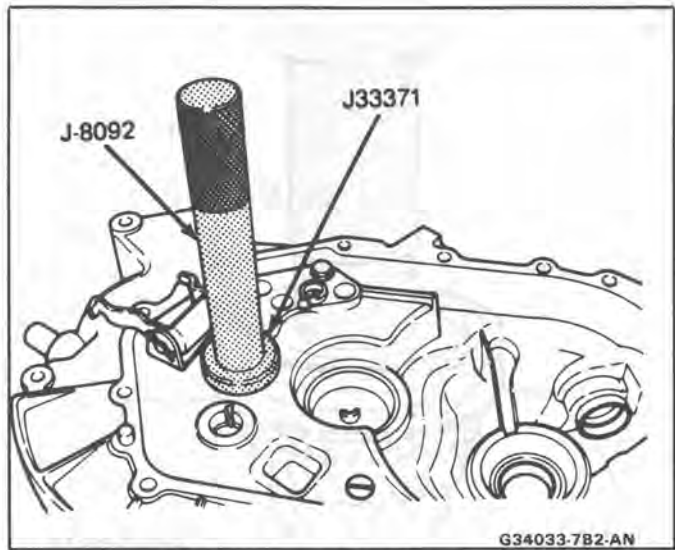
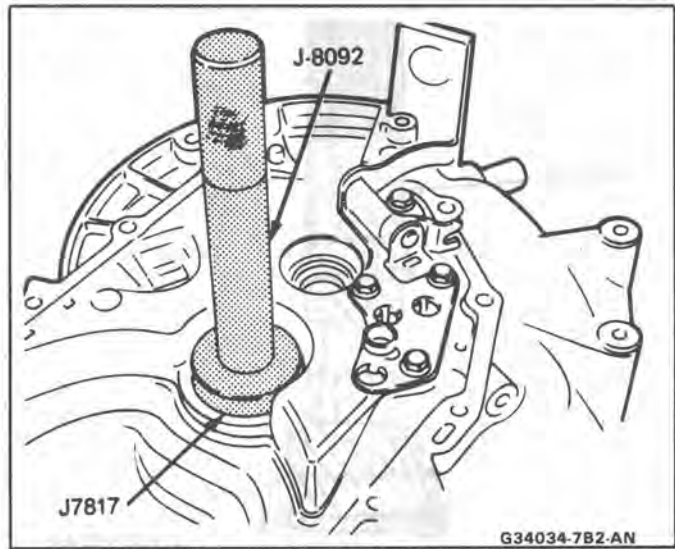
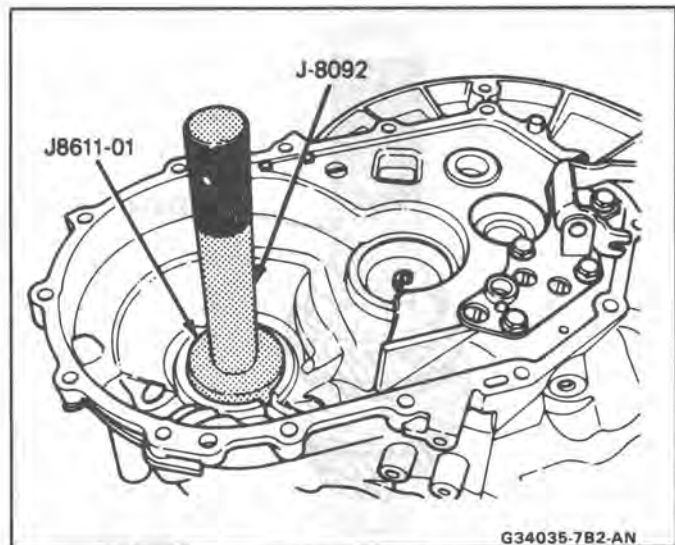

Fig. 34 Front Input Shaft Bearing Race
Fig. 35 Front Output Shaft Bearing Race
Fig. 36 Front Differential Bearing Race
2. Install the front outer bearing races for the input shaft, output shaft and differential into the clutch housing. Apply oil to the bearing races before installation. Using J 33371 with driver handle J 8092, press input race into housing (Fig. 34). Using J 7817 with driver handle J 8092, press output race into housing (Fig. 35). Using J 8611-01 with driver handle J 8092, press differential race into housing (Fig. 36).